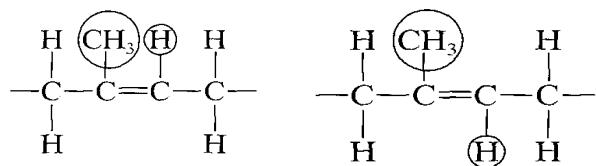

Figure 1: Chemical structure Cis-polyisoprene and trans-polyisoprene
- [c] Figure 1 shows the geometrical isomerism of polyisoprene. Outline the reasons why cis-polyisoprene is more popular than trans-polyisoprene.